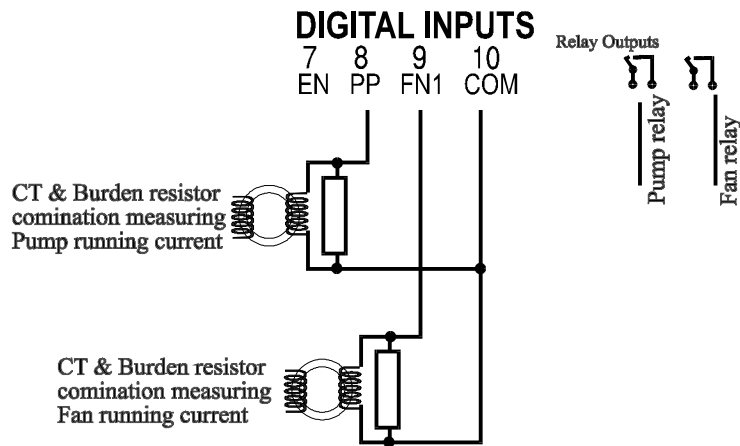

Figure 9.1.3A
- 9.1.3.1 The wiring arrangements for various Fan & Pump CT Type Inputs are shown in Figures 9.1.3A & 9.1.3B below.
- 9.1.3.2 Figure 9.1.3A shows the 852 wiring arrangement for CT type input where the transformer is fitted with both Fan and Pump. With this arrangement when commissioning and verifying the 'load' CT input it is important to ensure that the correct digital inputs are made as these determine the appropriate cooling gradient. For instance if a full 5A (OFAF) input is applied and the digital inputs are left in the Natural